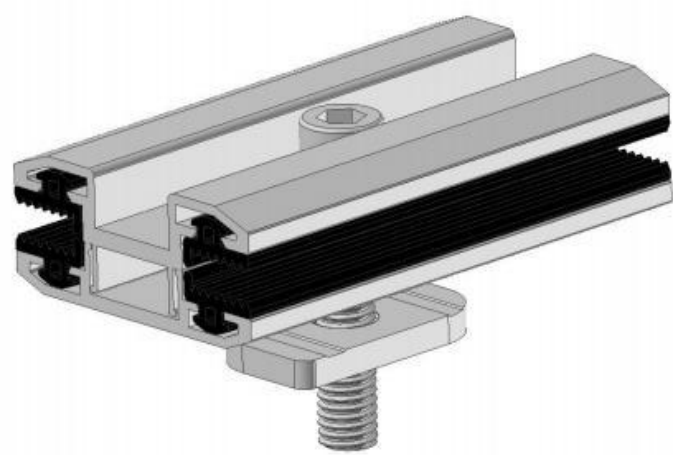

Figure 3: Schematic diagram of the fixture
- (1) Fixture specifications: Each fixture must maintain a minimum contact length of 100 mm with the component surface and a contact width of 5–12 mm on the front side (aiming to avoid obstructing the effective area while ensuring secure fixation), as illustrated in Figure 3.